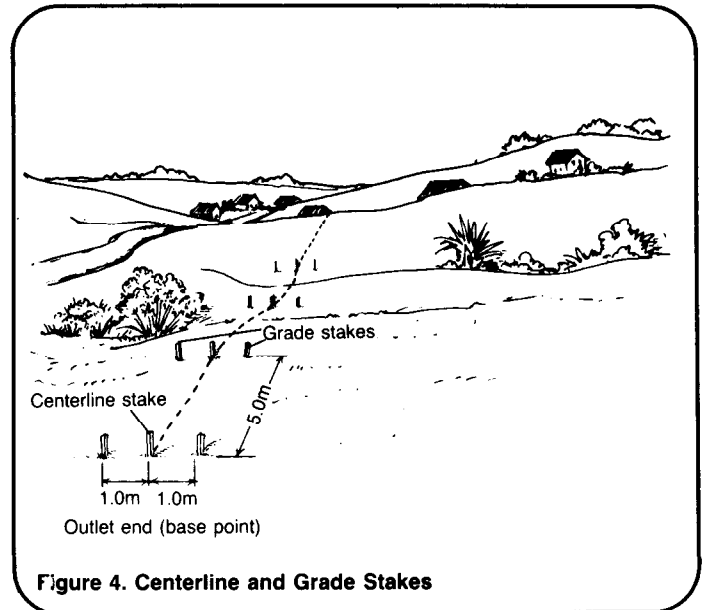

Figure 4. Centerline and Grade Stakes
2. Stake pipe lines and grade. Begin at the outlet end of the sewer system (pond inlet) and work "upstream." Stake out only that portion of the pipeline that can be constructed in a few days. See Figure 4.